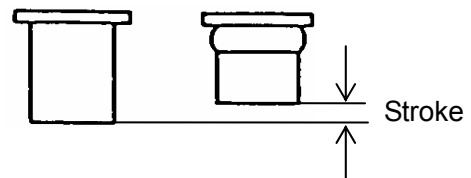

Figure 7-14
- i) Set a POP Nut without work piece, and check the stroke. If the stroke is 1.3mm or less, it is normal (Figure 7-14).